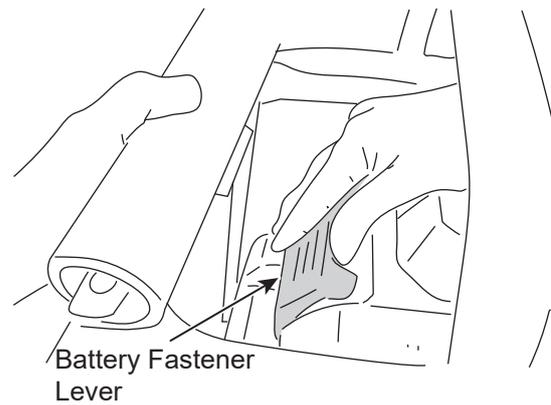

Fig.3
4. Push down the Battery Pack and hook the battery fastener to it.(Fig.3)
5. Push the battery fastener lever up and lock the Battery Pack.(Fig.3)